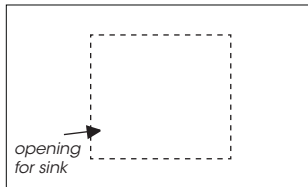

Figure 1
3. Use a white pencil and trace the openings required to install the lavatory and the pipe on the cabinet. (Figure 1)